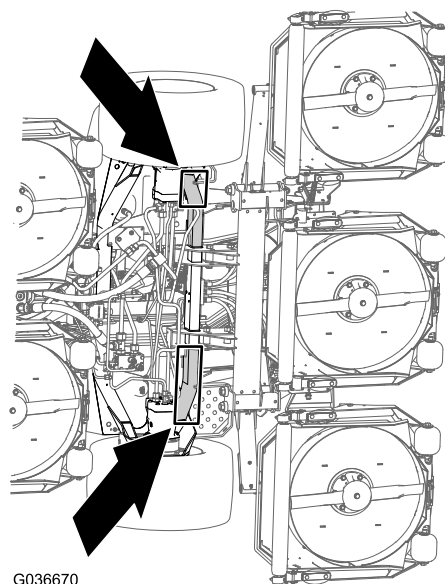

Figure 71
**Front of the machine**—at the frame of the machine, forward of the wheel-drive motors (Figure 71)